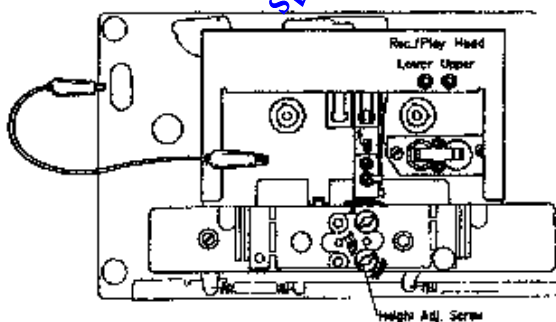
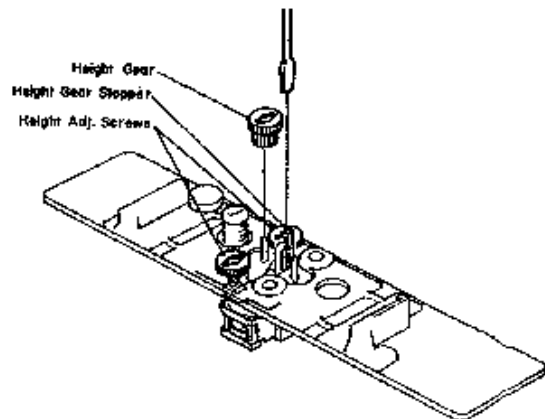

Fig. 4.4
Fig. 4.5
Note: On items 4.3 - 4.8, refer to Fig. 4.4 flow chart. Refer to Figs. 4.5 and 4.6.
- (1) Load a Tilt Check Gauge M-8036 (DA09036A) in the LX-3.
- (2) Clip the grounding terminal of the Tilt Check Gauge with one end of the cord with clip, and the chassis of the LX-3 with the other end.
- (3) Remove the Height Gear.
- (4) Set the LX-3 in Play mode. Check to insure whether the Beacon "Upper" or "Lower" is illuminating. In order not to give damages onto the record/playback head surface, push the slide knob of the Gauge to the direction of an arrow mark, then return it to the original place to be in contact with record/playback head surface after Play mode is securely locked.
- (5) Check to insure freedom from contact between the Gauge and pad lifter.
- (6) Beacon "Lower" will light on when height adjustment screw turned clockwise but "Upper" when counterclockwise. Adjust so that both "Upper" and "Lower" will light on even when you move the slide knob to the direction of an arrow mark and then return it to the original place.
- (7) Set the LX-3 in Stop mode and fit the serrated Height Gear. Then set the LX-3 again in Play mode and insure 2 Beacons "Upper" and "Lower" are illuminating.
- If not, (3) through (6) will have to be repeated till satisfactory results are obtained.